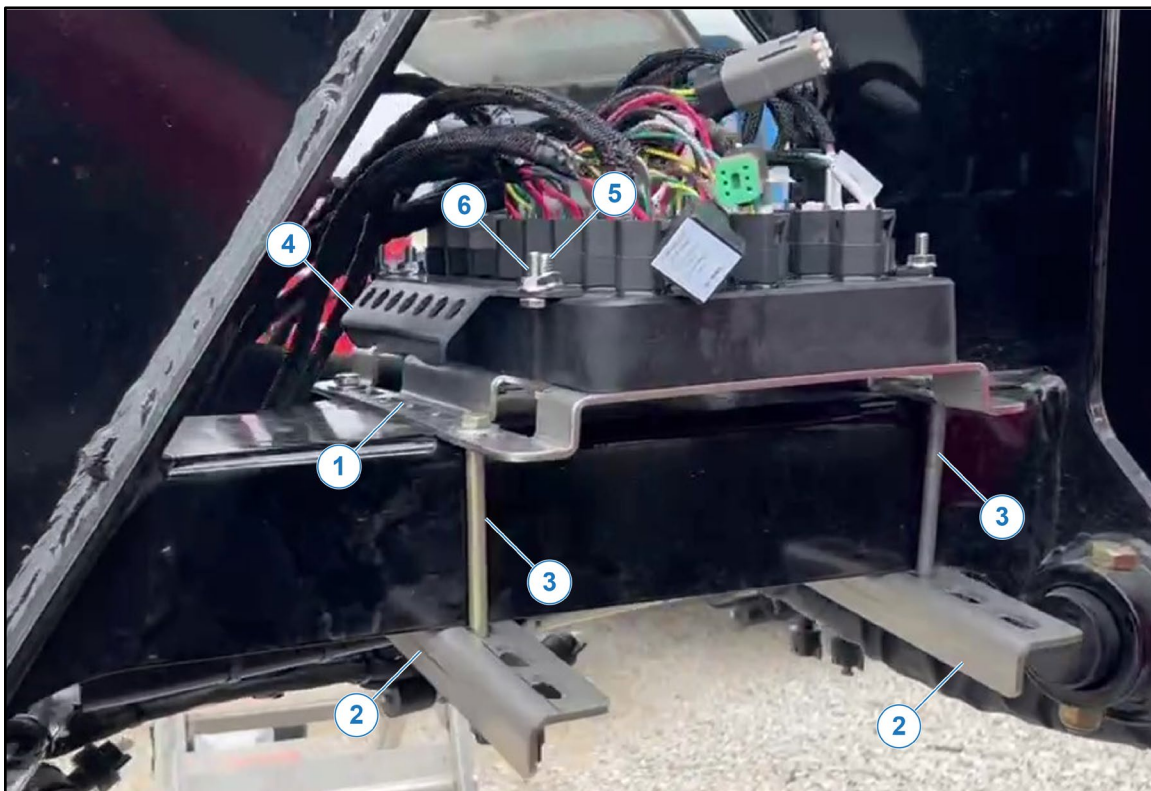

Figure 2 — Horizontal Mounting Bracket Installation
4. *Figure 2:* Secure universal mounting bracket (123000-013) (1) to boom frame using two mounting brackets (118640-108) (2), 6" carriage bolts (713501-433) (3), flat washers (713900-002) and flange nuts (713501-447).
5. Insert 5/16" x 2 1/4" bolts (5) included with Envelope Hub through strain relief bracket holes (4), through Envelope Hub mounting holes, and attach to universal bracket installed in previous step with included flange nuts.
6. Insert 1/4" bolts from backside of strain relief brackets and attach with flange nuts (6). Proceed to Step 9.